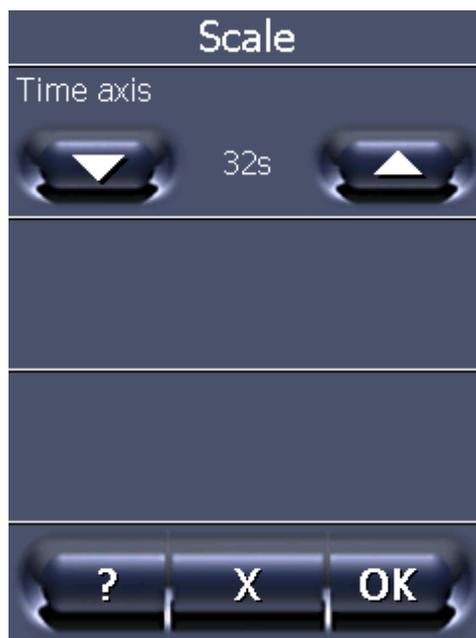

Fig. 17: Menu scaling of the time axis
- Opens a submenu for the scaling of the time axis (see Fig. 17).